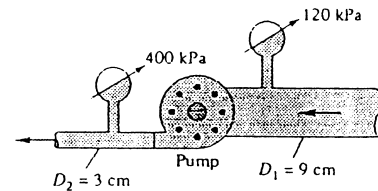

Fig. P3.139
3.139 The horizontal pump in Fig. P3.139 discharges 20°C water at $57 \text{ m}^3/\text{h}$. Neglecting losses, what power in kW is delivered to the water by the pump?